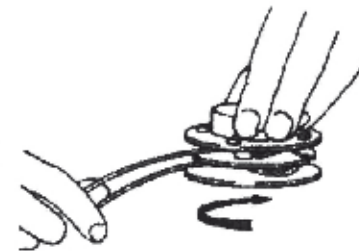

FIG. 3
3. Fold the line in half leaving two equal lengths. Insert the center fold in the central slot of the spool. (Fig. 3)